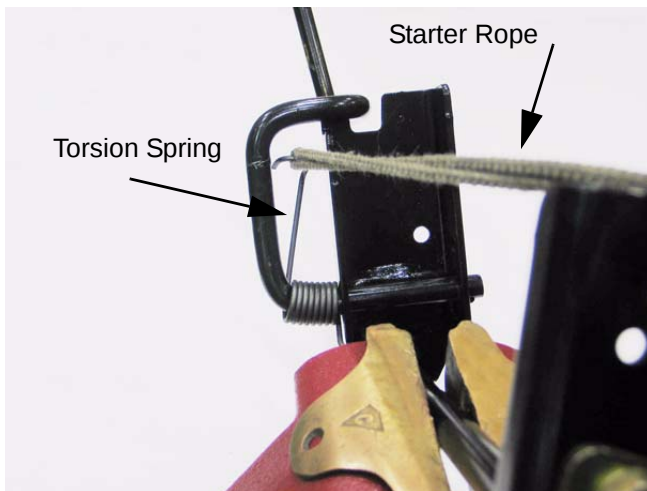

Figure 11.11
- 11.11. On the bench, relieve torsion spring pressure between the lift shaft and the lever that controls it using a length of starter rope. See Figure 11.11.